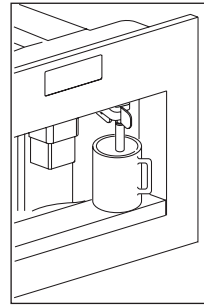

Fig. 12
- ▶ Place a cup under the hot water spout (Fig. 12). (If the hot water spout is not inserted, the appliance displays "INSERT WATER SPOUT".